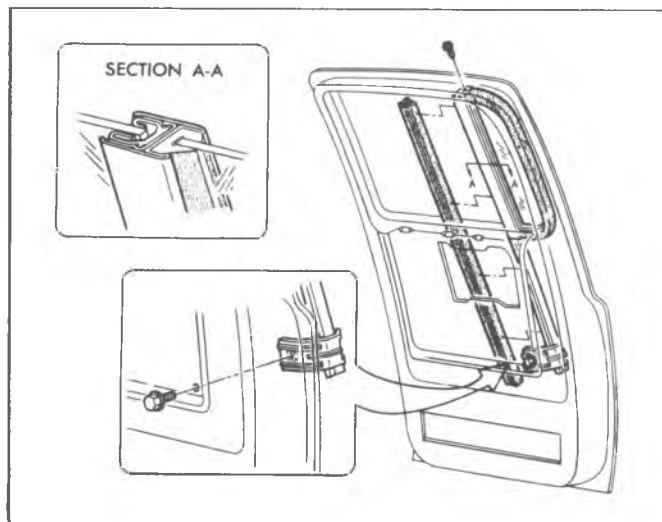

Fig. 39—Glass Run Channel
4. Remove glass run channel by removing screws retaining channel to door. See figure 39.